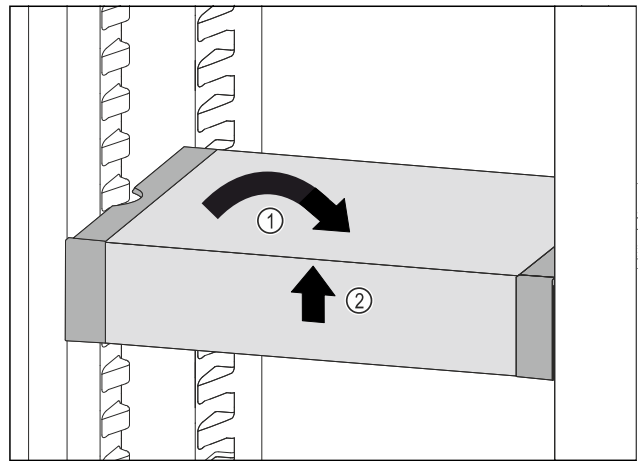

Fig. 128
- ▶ Set VarioSafe straight. *Fig. 128 (1)*
- ▶ Lift VarioSafe at the front. *Fig. 128 (2)*